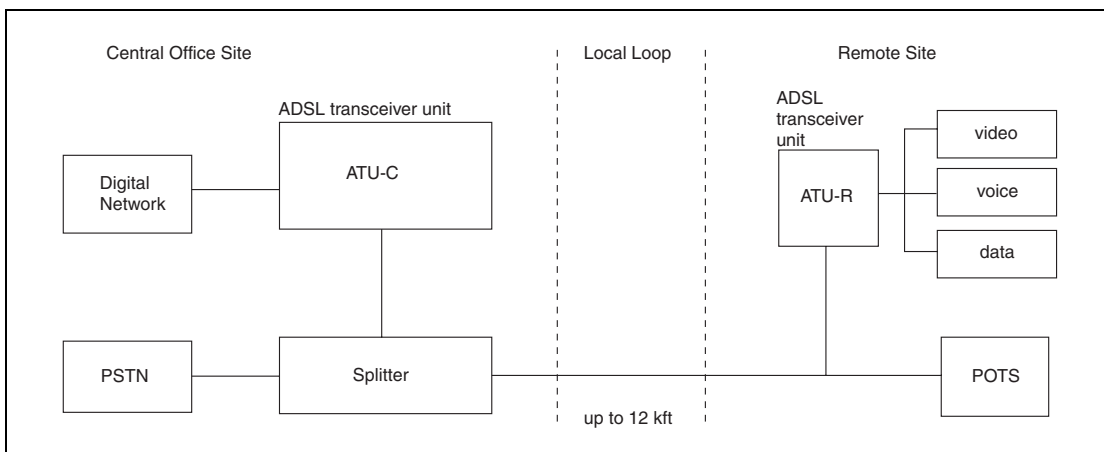
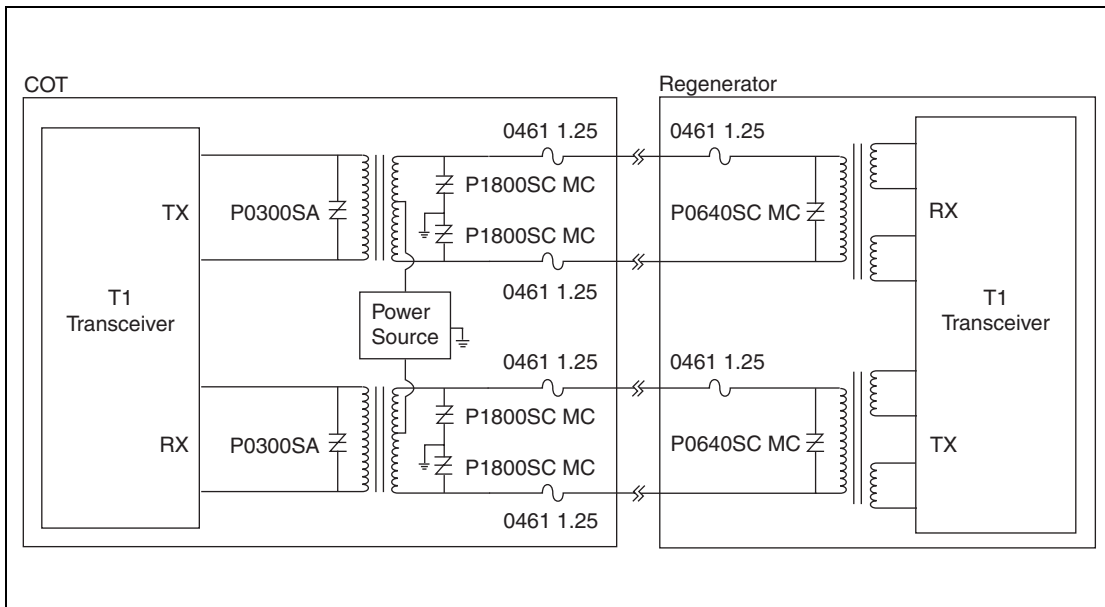

Figure 3.7 ADSL Overview
Figure 3.17 T1/E1 Protection
Transmission equipment should be protected against overvoltages that can exceed 2500 V and surge currents up to 500 A. In Figure 3.7 through Figure 3.17, *SIDACtor* devices were chosen because their associated peak pulse current ( $I_{PP}$ ) rating is sufficient to withstand the lightning immunity tests of GR 1089 without the additional use of series line impedance. Likewise, the fuse shown in Figure 3.7 through Figure 3.17 was chosen because the  $\text{amps}^2\text{time}$  ( $I^2t$ ) rating is sufficient to withstand the lightning immunity tests of GR 1089, but low enough to pass GR 1089 current limiting protector test and power cross conditions (both first and second levels).
Asymmetric Digital Subscriber Lines (ADSLs) employ transmission rates up to 6.144 Mbps from the Central Office Terminal (COT) to the Remote Terminal (RT) and up to 640 kbps from the RT to the COT at distances up to 12,000 feet. (Figure 3.7)
Longitudinal protection is required at the Central Office Terminal (COT) interface because of the ground connection used with loop powering. (Figure 3.17) Two P1800SC MC *SIDACtor* devices provide overvoltage protection and two **0461** 1.25 *TeleLink* fuses (one on Tip, one on Ring) provide overcurrent protection. The P1800SC MC device is chosen because its  $V_{DRM}$  is compliant with TIA-968 regulations, Section 4.4.5.2, "Connections with protection paths to ground." These regulations state:
For the transceiver side of the coupling transformer, additional overvoltage protection is shown in Figure 3.17 using the P0300SA SIDACtor device. When an earth ground connection is not used, only metallic protection is required. Metallic protection is satisfied using a single P0640SC MC SIDACtor device across Tip and Ring and a single 0461 1.25 TeleLink fuse on either Tip or Ring.